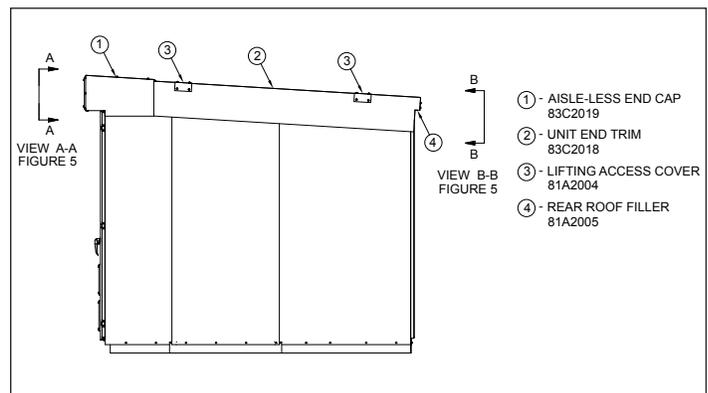
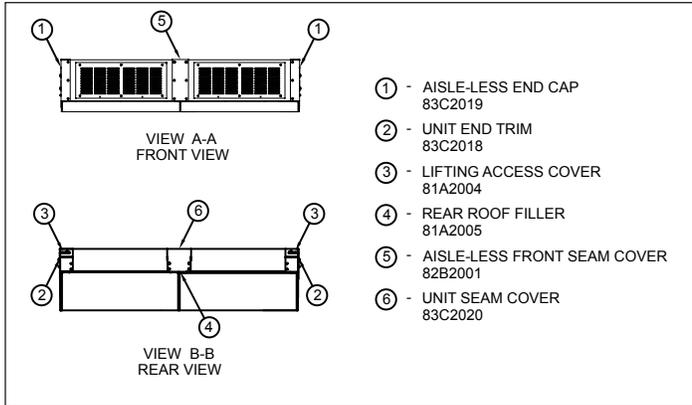

Figure 4. End Trim Cap and End Trim
Figure 5. Front and Rear Filler Piece Locations.
- b. Remove any overhanging seam covers and roof fillers from the groups of switchgear. These will be replaced at a later time (Step 5). **Figure 4** and **Figure 5** show the placement of the seam covers and roof fillers that may need to be removed and replaced during assembly.
5. Install the seam covers lifting hole access covers and roof fillers. Install filler pieces lifting hole access covers and unit seam covers using proper hardware from detail box. If unit end trim is not on each end of shipping group, install at this time using proper hardware from detail box. Refer to **Figure 4** and to **Figure 5** for the placement of these items.